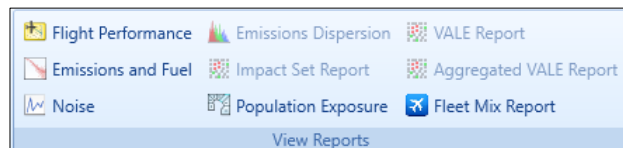

Figure 5-43 Ribbon Group – View Reports
3. The *Reports* ribbon group is displayed (Figure 5-43).
2. From the *View Reports* ribbon group, click *Flight Performance* (Figure 5-43). The graph is displayed.
2. From the *View Reports* ribbon group, click *Emissions and Fuel* (Figure 5-43) to open the report.
2. From the *View Reports* ribbon group, click *Noise* (Figure 5-43) to open the report.
2. From the *Reports* ribbon group, click *Emissions Dispersion* (Figure 5-43) to open the report.